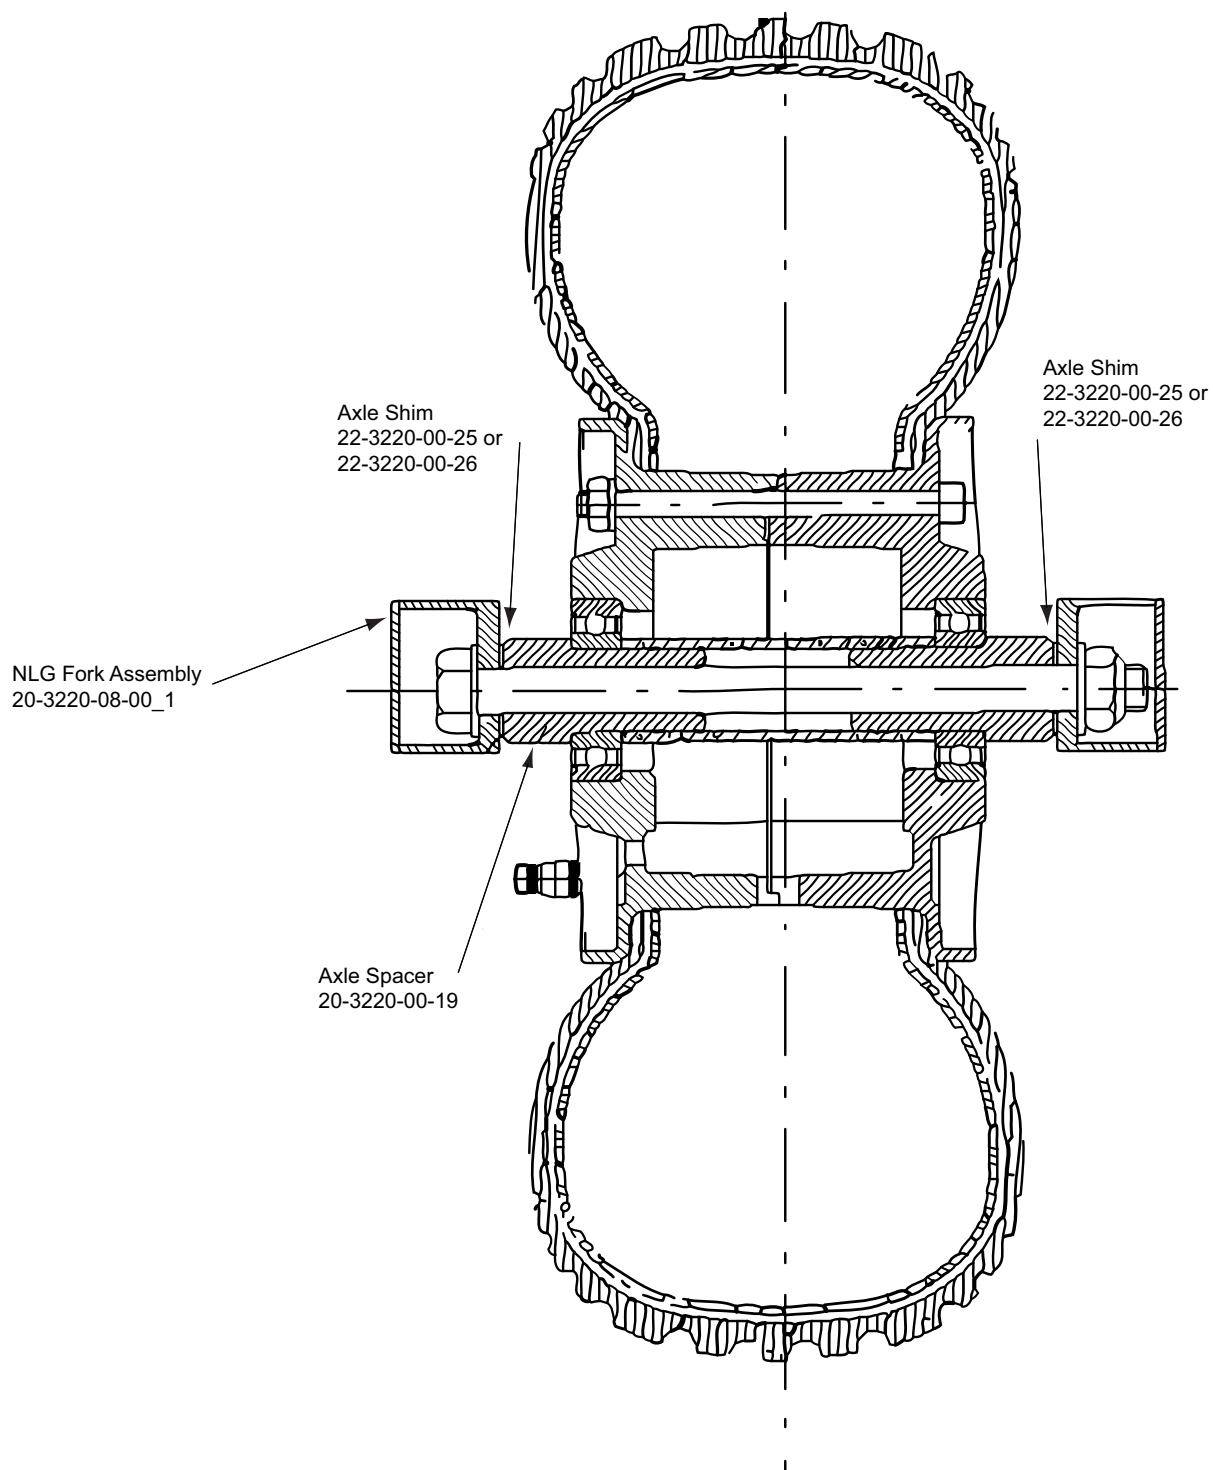

Figure 2 - NLG Wheel Installation with Shims
- 10.8** Re install the wheel and use the shims to eliminate the gap between the axle spacer (20-3220-00-19) and the fork. Use a maximum of two shims and divide the shim installation evenly from side to side. Maximum difference between sides is 0.010". See figure 2.